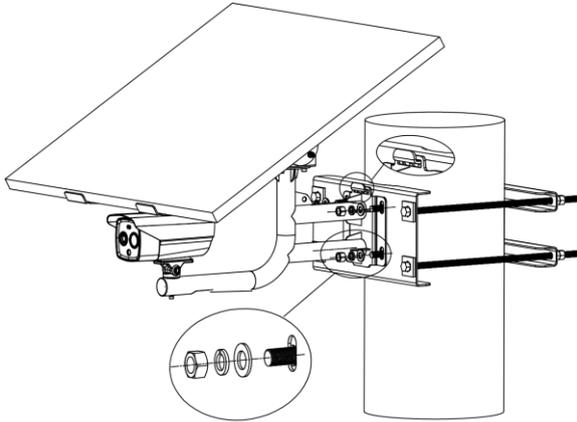

Figure 3-11 Install Kit
- Hook the solar-powered thermal camera kit on the vertical pole mount bracket, and fix the kit with the flat gaskets, spring washers, and nuts, as shown in Figure 3-11.